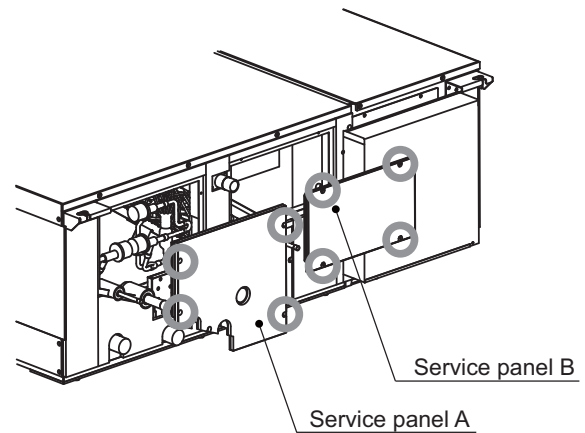

Fig.1
1. To remove service panel A (Fig.1)
2. To remove service panel B (Fig.1)